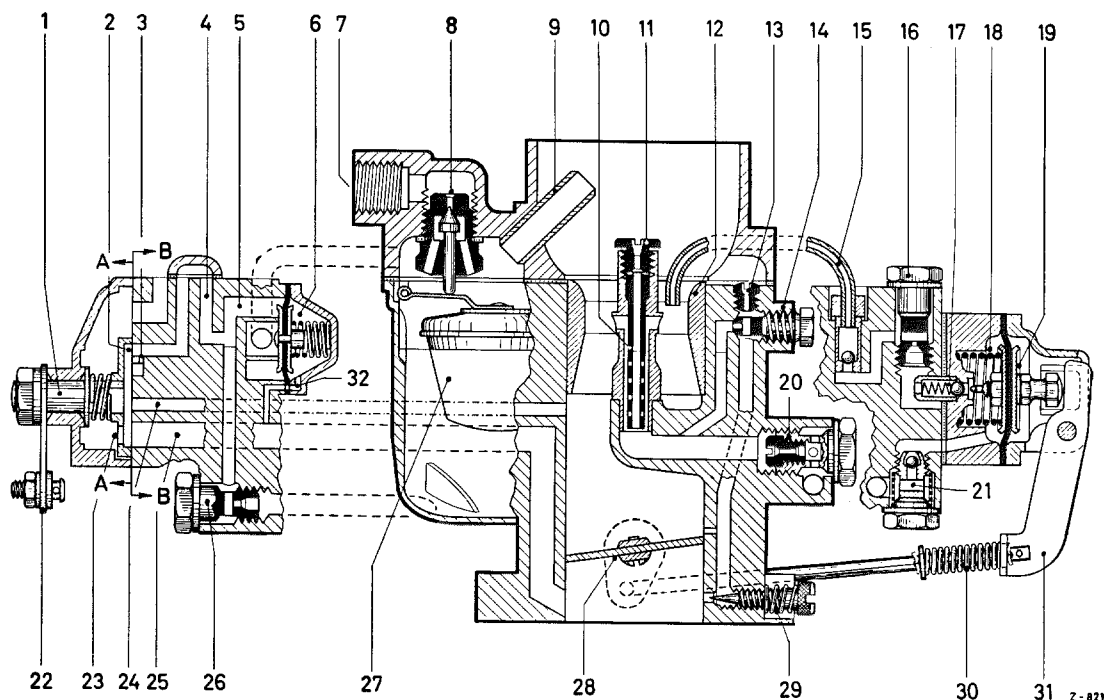

Fig. 07-0/10 c
The acceleration pump used for carburetor 34 PJCB is a so-called "neutral" pump (carburetor 32 PJCB has a strengtning or enriching pump). With a neutral acceleration pump the engine is able to take in additional fuel by way of the injection tube (15) and bore (17) from the pump system at partial load and at full load, depending on the vacuum in the air horn, without operating the accelerating pump (Fig. 07-0/10 c).